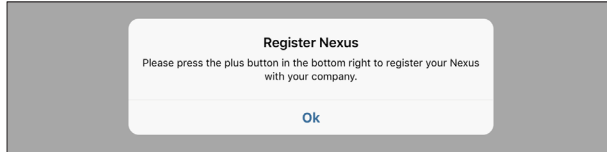

Figure 11 Register NEXUS inquiry window
1. Select **Ok** in the Register NEXUS dialog window (Figure 11).